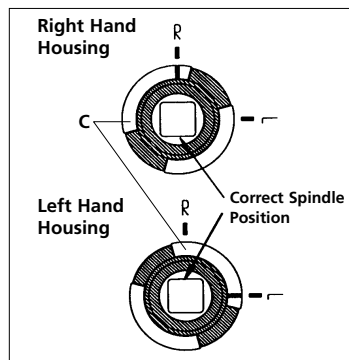

Figure 7
- 5) Set the latch hub drive (C) on the inside housing to the proper position for the handing of the lock. Make sure the position of the spindle is as shown (see Figure 7).